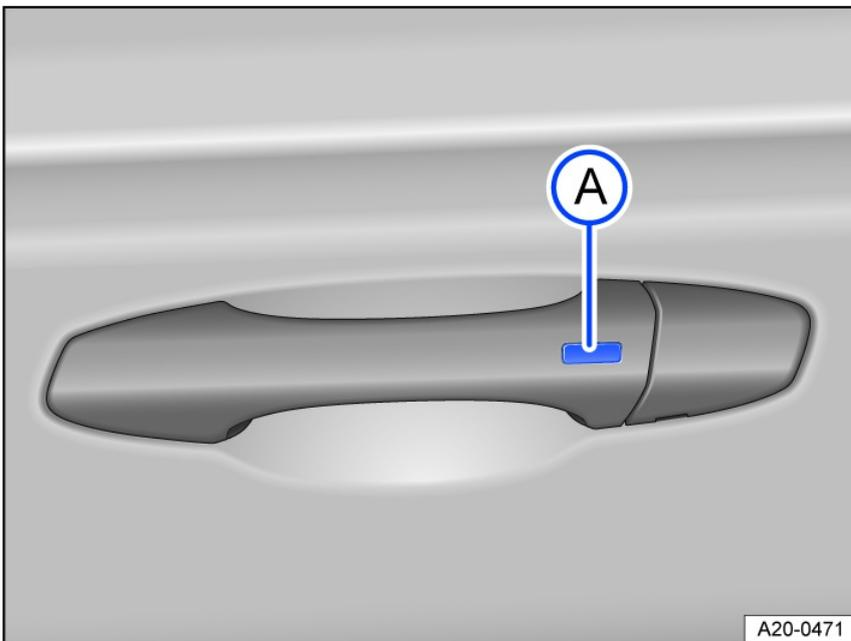

Fig. 52 In door handle: Button to unlock or lock.
1. Press button fig. 52 on the outside of the door handle.
2. Press button fig. 52 on the outside of the door handle.
2. Within 5 seconds of locking the vehicle, press the button on the outside of the door handle once fig. 52 Ⓐ. Do not grasp the door handle during this process.